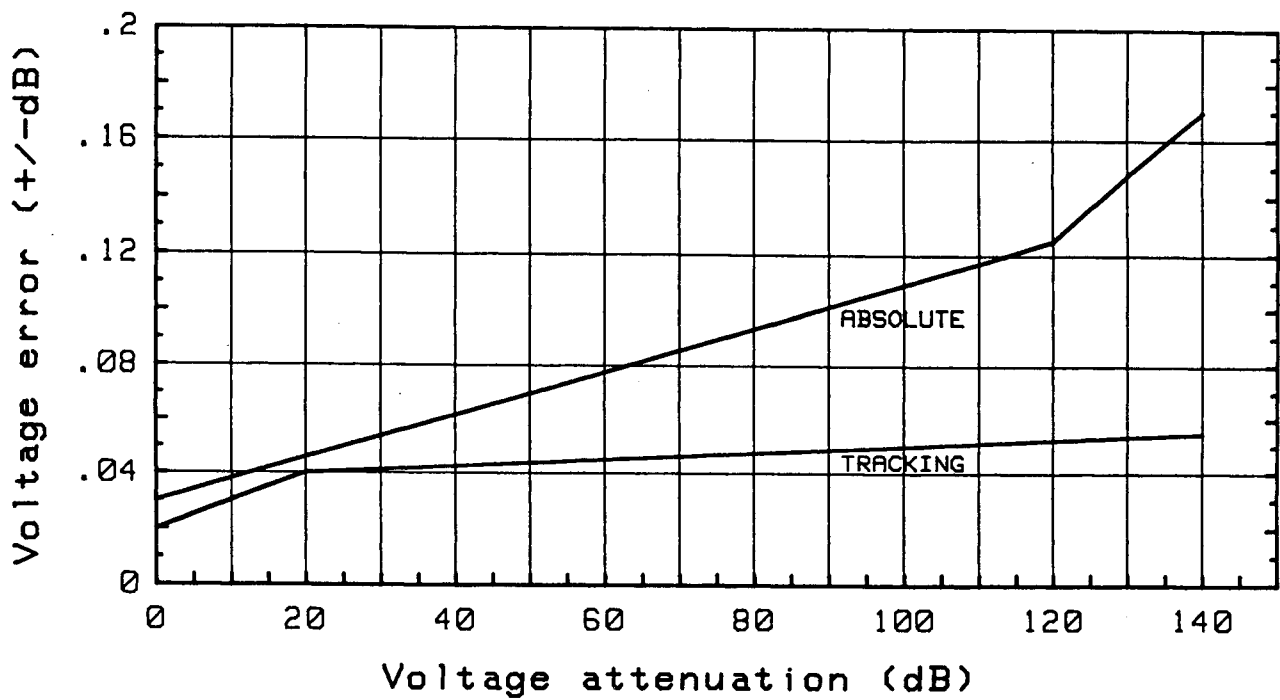
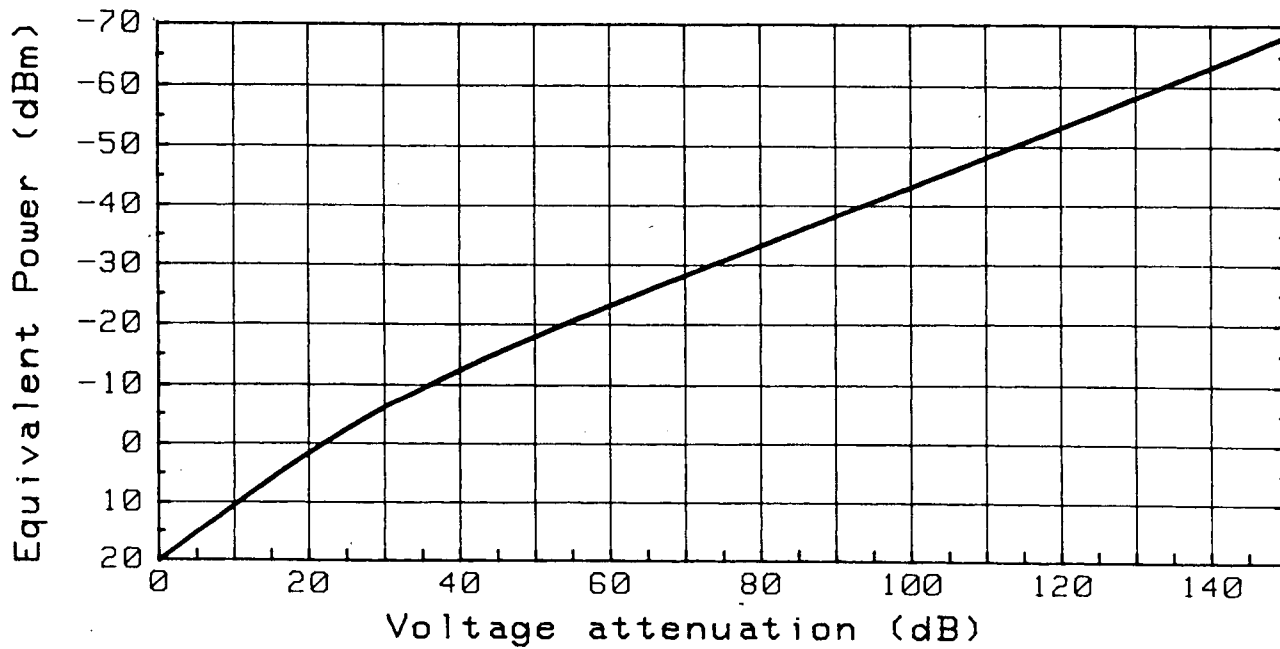

Figure 1-2. HP11613B Attenuation Accuracy
Figure 1-3. Voltage Attenuation vs. Equivalent Detector Input Power
- The National Bureau of Standards (NBS) traceable HP 11613B specifications are shown in *Figure 1-2* of this manual.
Figure 1-2 shows the NBS traceable absolute voltage attenuation error and the HP traceable tracking limit of the HP 11613B. The NBS traceable voltage attenuation error is greater than the HP traceable tracking limit because the NBS traceable attenuation error calculation includes cumulative measurement uncertainties. These uncertainties reflect the rigorous procedures required to establish NBS traceability of the calibrator, given its accuracy and dynamic range. Passing the "Operator's Check" as described in Section 6 of this manual will verify, within the limits of the test equipment used, that the HP 11613B meets its NBS traceable specification.
The HP 11613B calibrator is traceable to NBS standards through an HP 11613 transfer standard. The HP 11613 transfer standard is an HP 11613 calibrator that has been characterized with specialized NBS traceable test equipment in the HP Calibration Laboratory. Figure 1-2 shows the NBS traceable absolute voltage attenuation error. Figure 1-3 relates voltage attenuation (dB) to power level (dBm). For example, 80 dB of calibrator attenuation relates to a detector input power level of approximately -34 dBm.